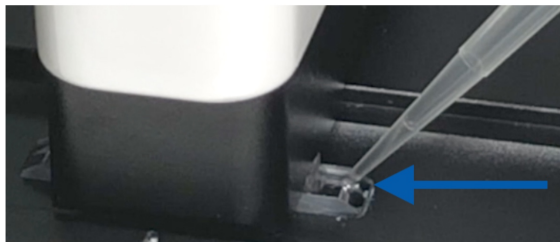

Figure 4: Pipette position for cleaning. Load 70% ethanol into the alignment groove.
5. Place the pipette tip in the alignment groove (Figure 4) and then dispense.